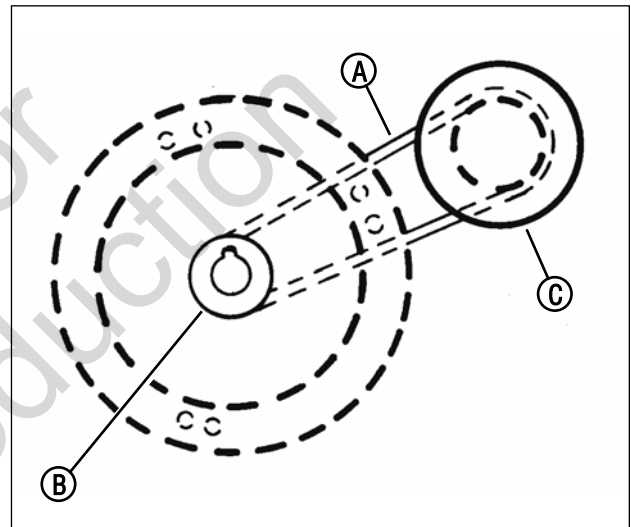

Figure 33: Engine drive belt routing
On self-propelled mowers, the engine belt (A, Figure 33) transmits power from the engine pulley (B) to the drive disc (C). The drive disc powers the poly-v belt, which engages the transmission that powers the rear wheels. Should these belts become worn, they could cause slippage, which would impair mower performance. The condition of the engine belt and poly-v belt should be checked after every 25 hours of mower operation.
2. Note the belt routing (Figure 33). There is no idler pulley on these models to disconnect.